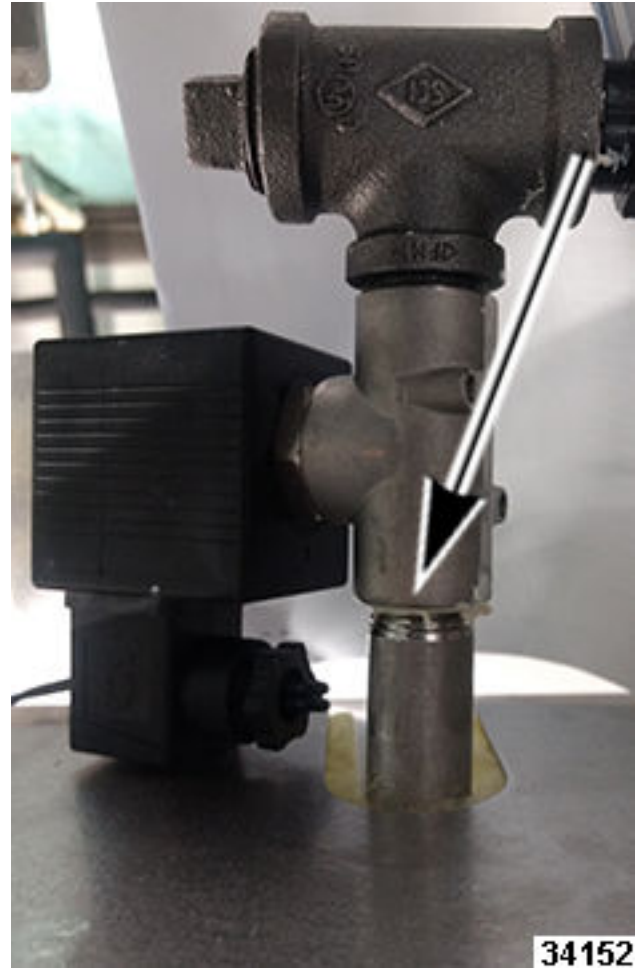
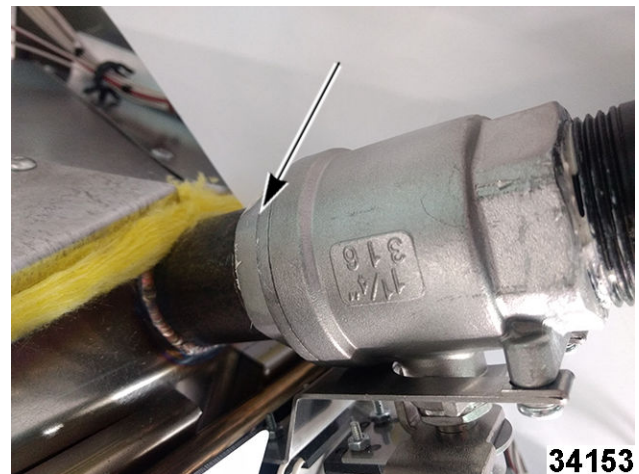
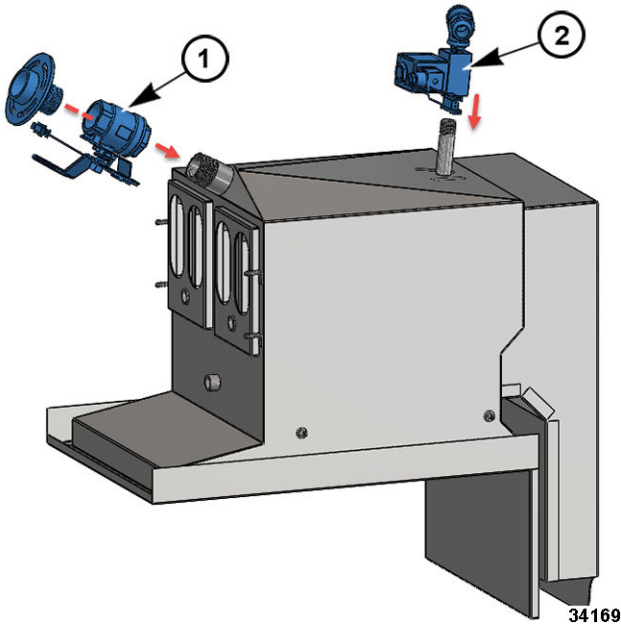

Fig. 100
Fig. 101
Fig. 102
9. Remove oil solenoid valve assembly (Fig. 100 and 1 in Fig. 102) and drain valve (Fig. 101 and 2, Fig. 102) from tank and install on new tank using RECTORSEAL 5® or equivalent NSF rated thread sealant.